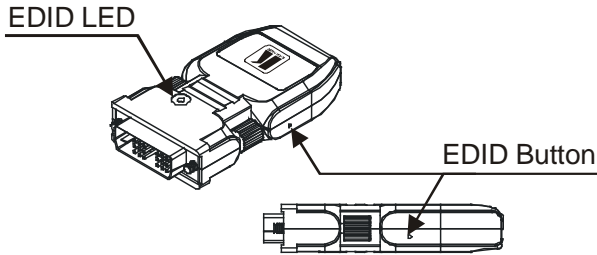

Figure 2: The Auto EDID Button on the 602T
3. Push the EDID button (illustrated in Figure 2), using a small screwdriver. The EDID LED blinks twice and turns off.